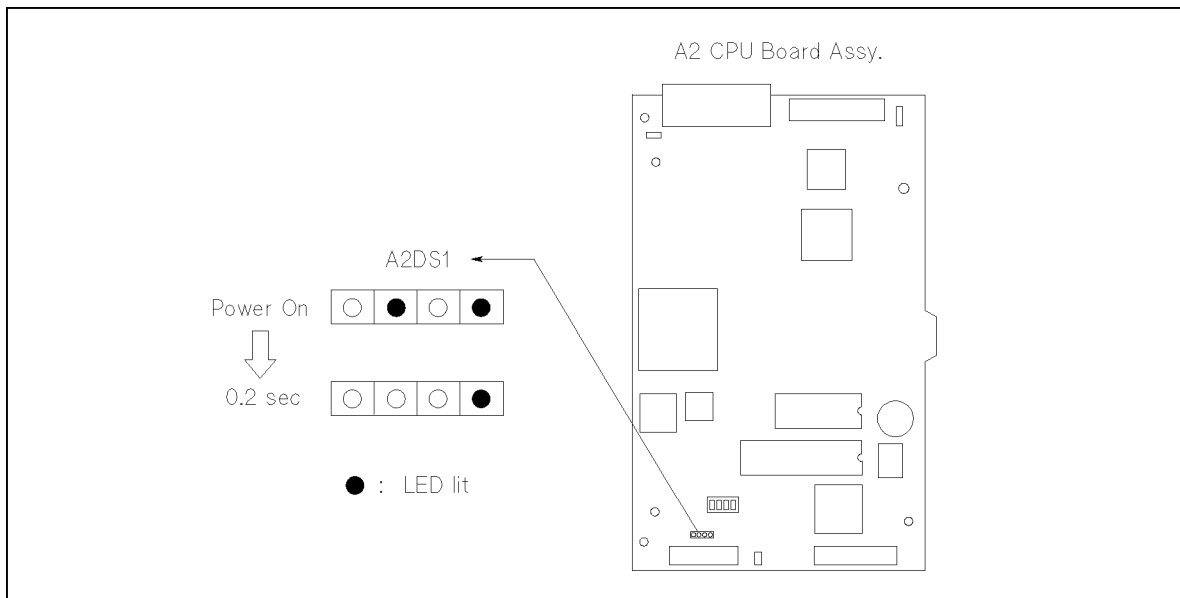

Figure 4-10. CPU Board Assembly LED Light Sequence
2. Check if the LED “+5V” of DS1 on the A2 CPU Board Assembly lights. Refer to Figure 4-10 for DS1 location.
3. Check if the LEDs light as the sequence shown in Figure 4-10.